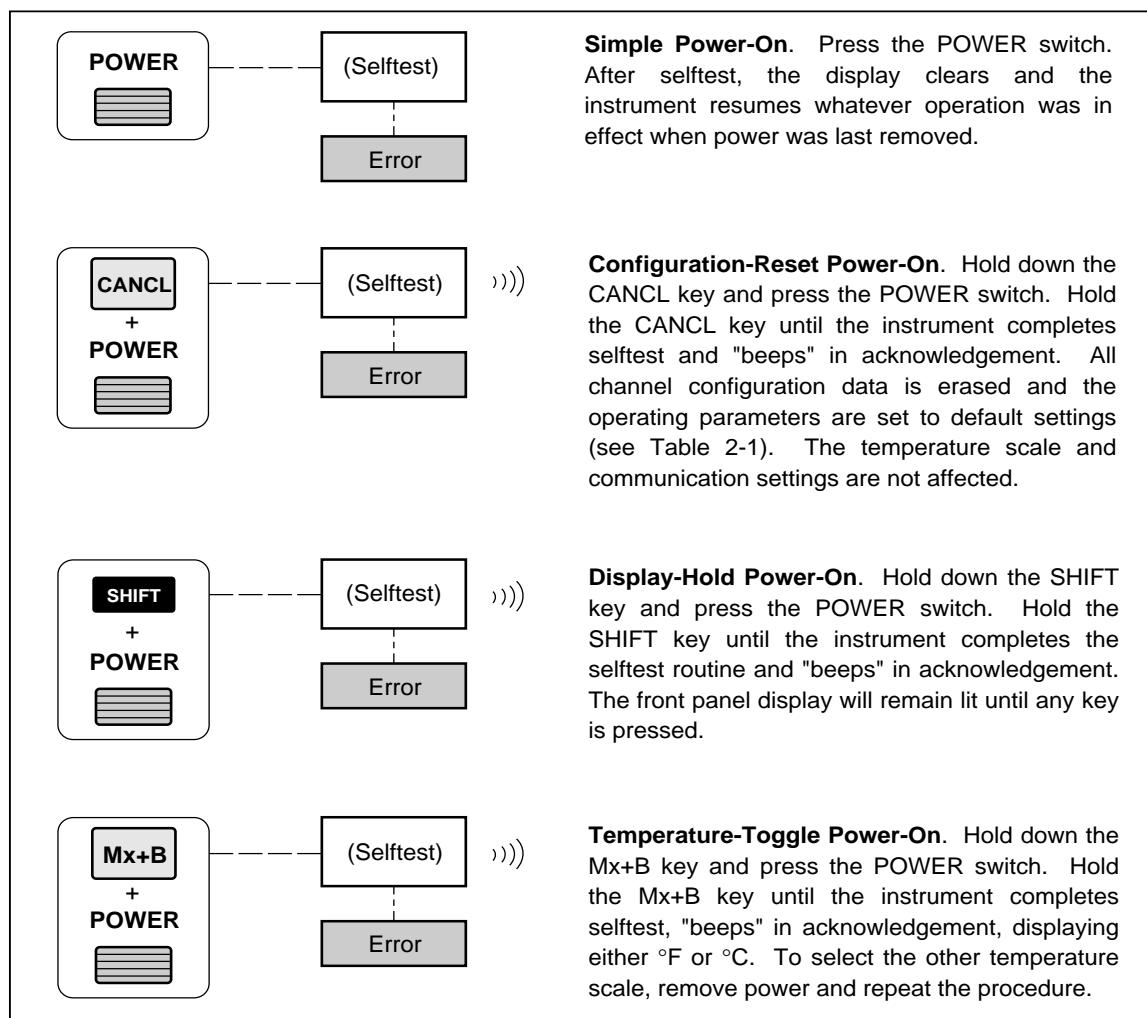
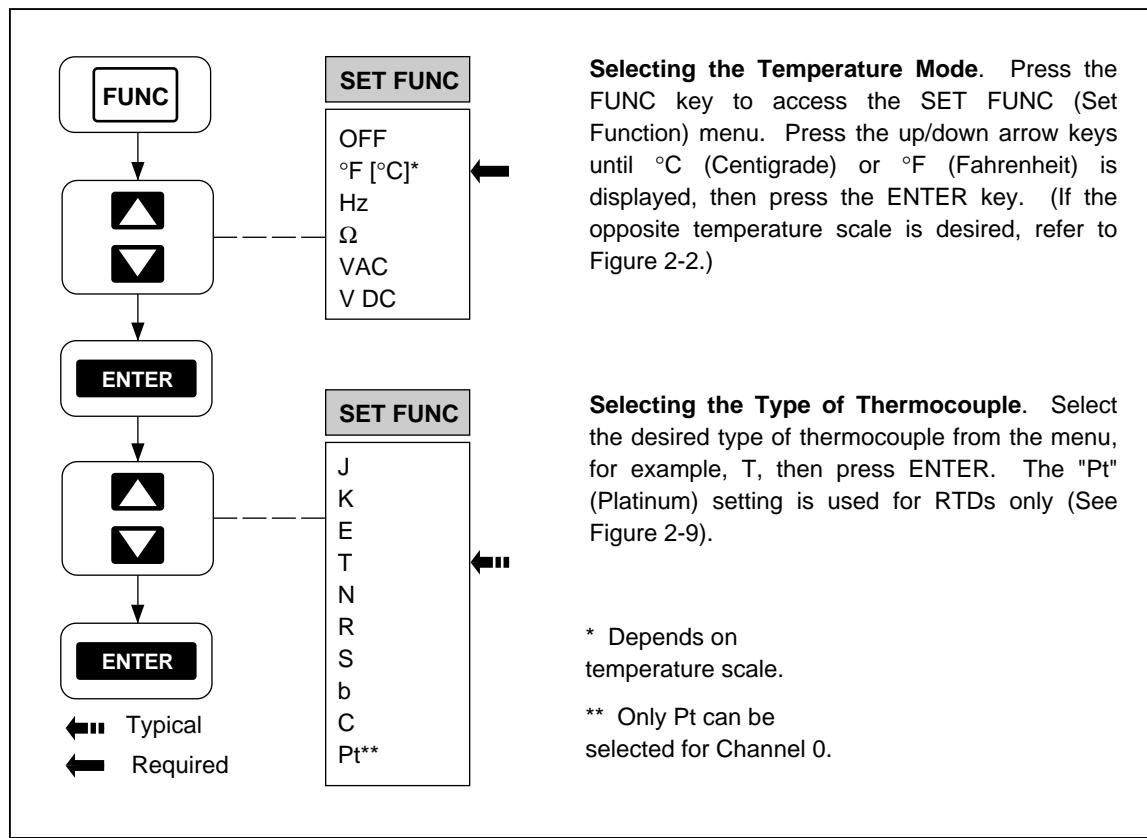
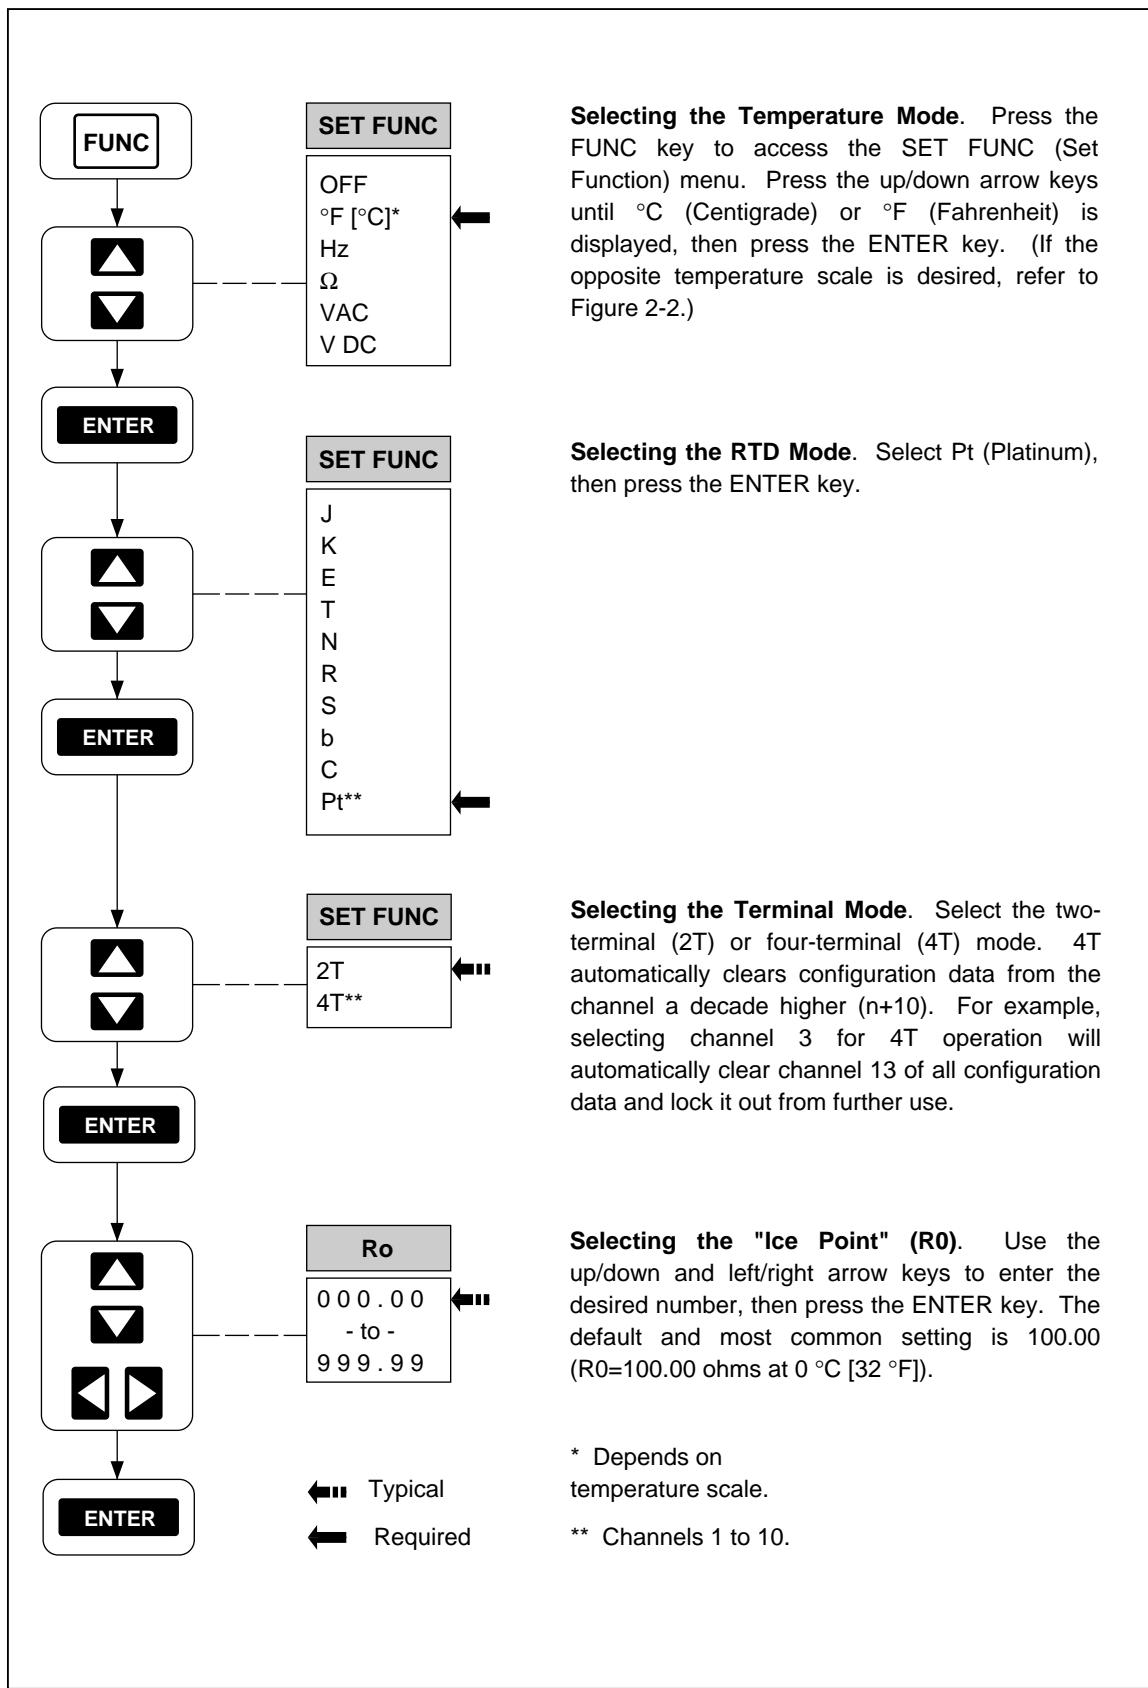

Figure 2-2. Turning the Power On
Figure 2-8. Configuring a Channel to Measure Temperature (Thermocouples)
Figure 2-9. Configuring a Channel to Measure Temperature (RTDs)
- Turning the Power On (Figure 2-2)
There are four power-on options. Figure 2-2 describes the control sequences for each option.
- Configuring a Channel to Measure Temperature (Thermocouples) (Figure 2-8)
- Configuring a Channel to Measure Temperature (RTDs) (Figure 2-9)
Perform the procedure in Figure 2-8 to configure a channel for measuring temperature with thermocouples, or Figure 2-9 to measure temperature with resistance-temperature detectors (RTDs). In preparation, the instrument must be in the inactive mode (not scanning or monitoring) and the desired channel must be selected (see Figure 2-3). To exit at any time (changes not saved), press the **CANCEL** key. The temperature scale, °C or °F, is set by the Temperature-Toggle Power-On procedure (see Figure 2-2). When under computer control, an open thermocouple default can be set by the TEMP_CONFIG command.